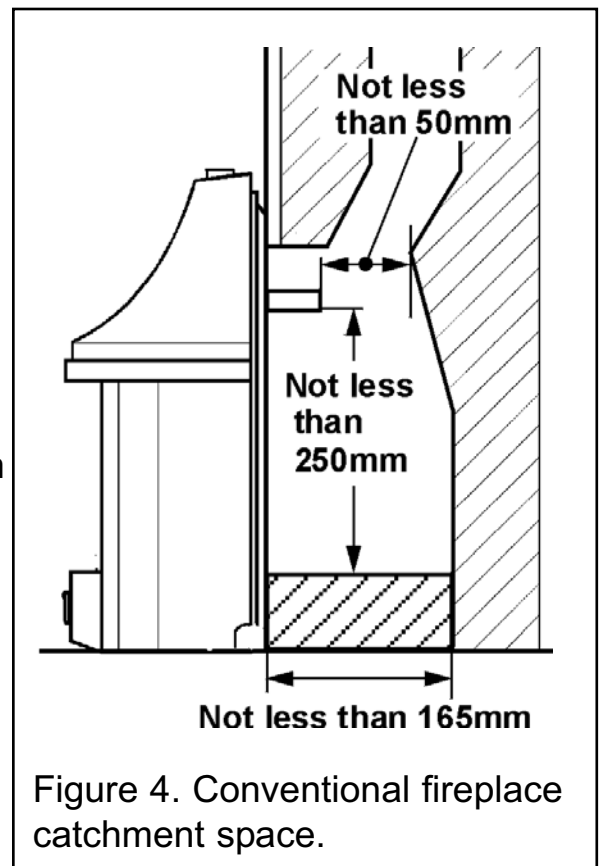

Figure 4. Conventional fireplace catchment space.
On conventional flues the catchment space below the flue spigot must extend at least 250mm downwards measured from the bottom of the flue spigot (See figure 4).
Any opening visible below the appliance may be closed in but the depth of the catchment space within the wall opening must be as shown in figure 4.
10. If the fire is fitted to a recessed fireplace, an extension flue spigot up to a maximum total length of 125mm may be used. The extension must be a tight fit over the flue spigot and be secured by two self tapping screws. Note the minimum clearance required as shown in figure 4.